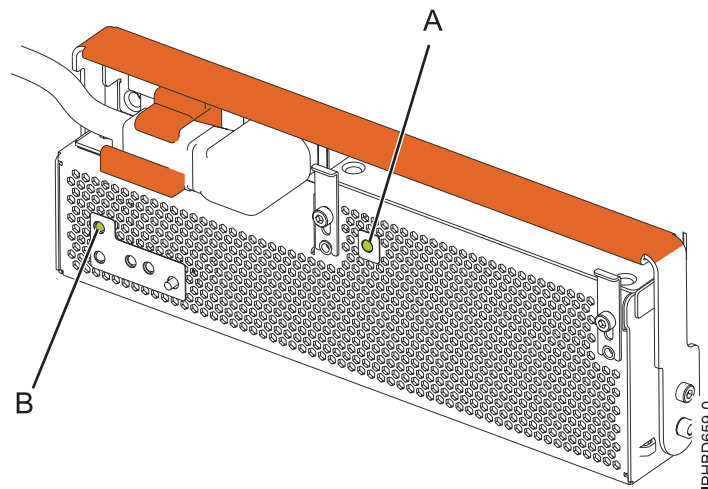

Figure 20. Expansion unit ac power and OCA power LEDs
10. Note the state of the green ac power in (A) and Offline Converter Assembly (OCA) power (B) light-emitting diodes (LEDs) shown in Figure 20, and do one of the following actions, as applicable:
- If the LEDs indicate that the power supply is operating normally, that is, that the ac power in LED (A) is on solid and the OCA power (B) LED is on solid or flashing, continue to the next step.